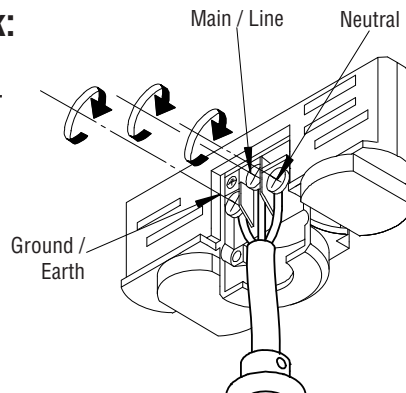

Figure 7: Track Adapter Power Wiring
Step 1. If not done at factory, connect AC wiring as shown in **Figure 7**. Also refer to Table 1 “Input Wiring on page 8